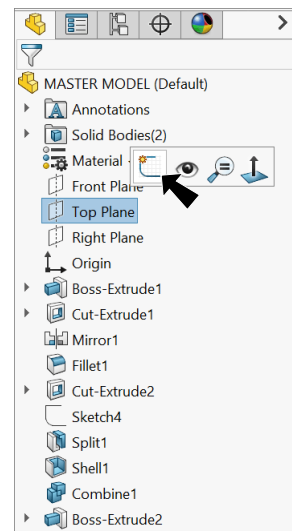

Fig. 45
Step 1. Click **Top Plane**  in the Feature Manager and click **Sketch**  on the context toolbar, **Fig. 45**.